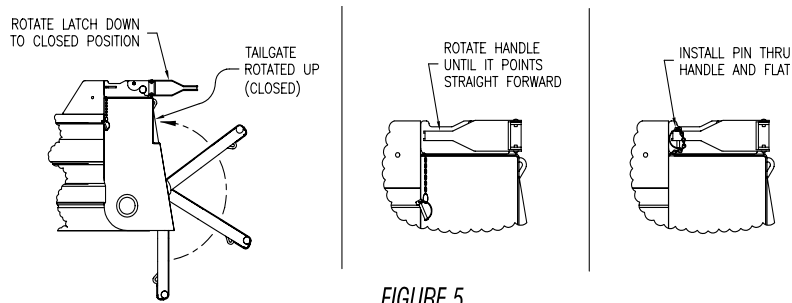

FIGURE 5
- Install the retaining pin in the latch handle as shown in Figure 5.